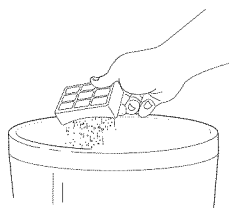

Fig. 26
- 3 Turn the filter over so that the dirty side is on the bottom and vigorously tap it clean against a garbage can to remove any dust. (Fig. 26)